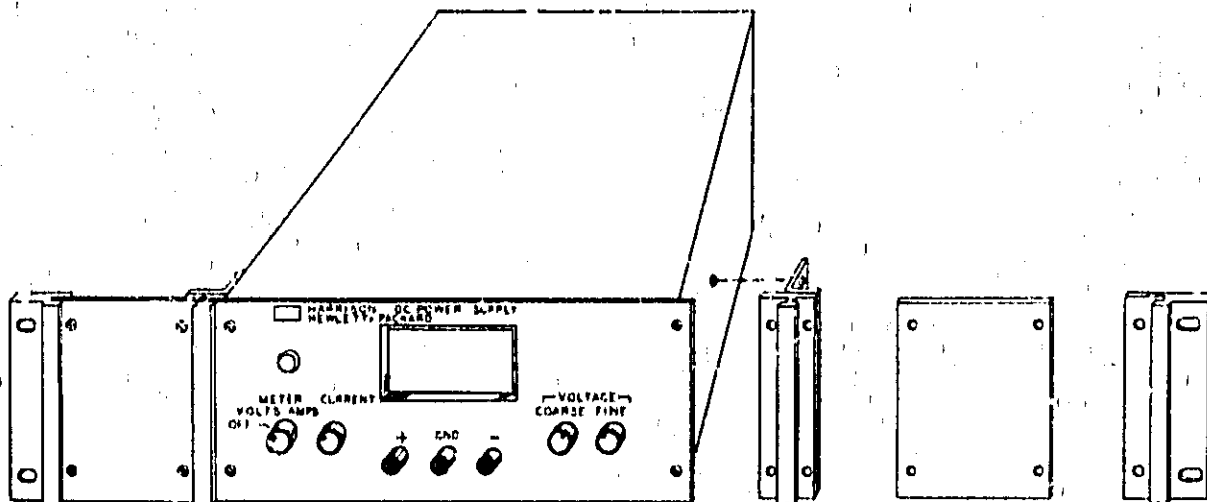

Figure 2-2. Rack Mounting, One Unit.
a. Bolt rack mounting ears, combining straps, and angle brackets to each side of center spacing panels. Angle brackets are placed behind combining straps as shown in Figure 2-2.